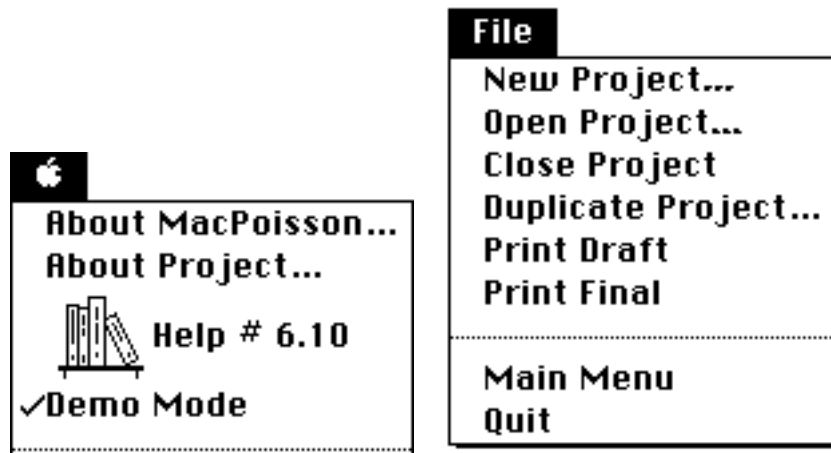

Fig 2.54 Library Menus
The File menu (Fig 2.54) contains the expected Open Project..., Close Project, Main menu, and Quit commands.
- Select Quit from the File menu (Fig 2.54).